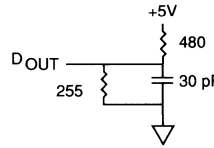

Fig. 1 OUTPUT LOAD EQUIVALENT
Output load .....	See figures 1 and 2
- Test conditions as specified with the output loading as shown in Fig. 1 unless otherwise noted.